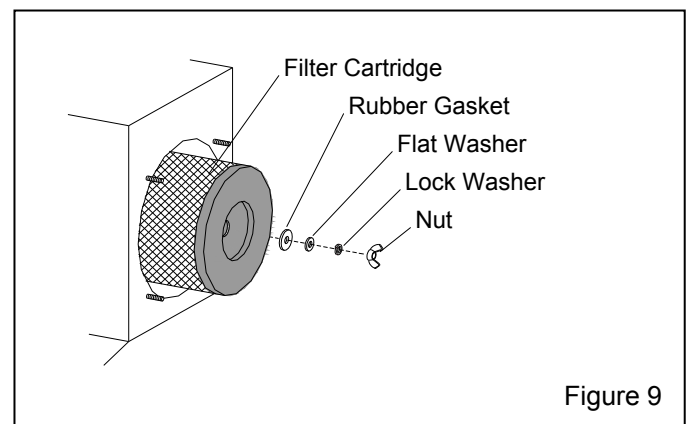

Figure 9
6.4.3 Remove the nut, lock washer, flat washer and rubber gasket from the cartridge support, as shown in Figure 9. Remove the cartridge through the open, sliding it off the support. NOTE: Contain dust by sliding a durable plastic bag over the cartridge as it is removed.